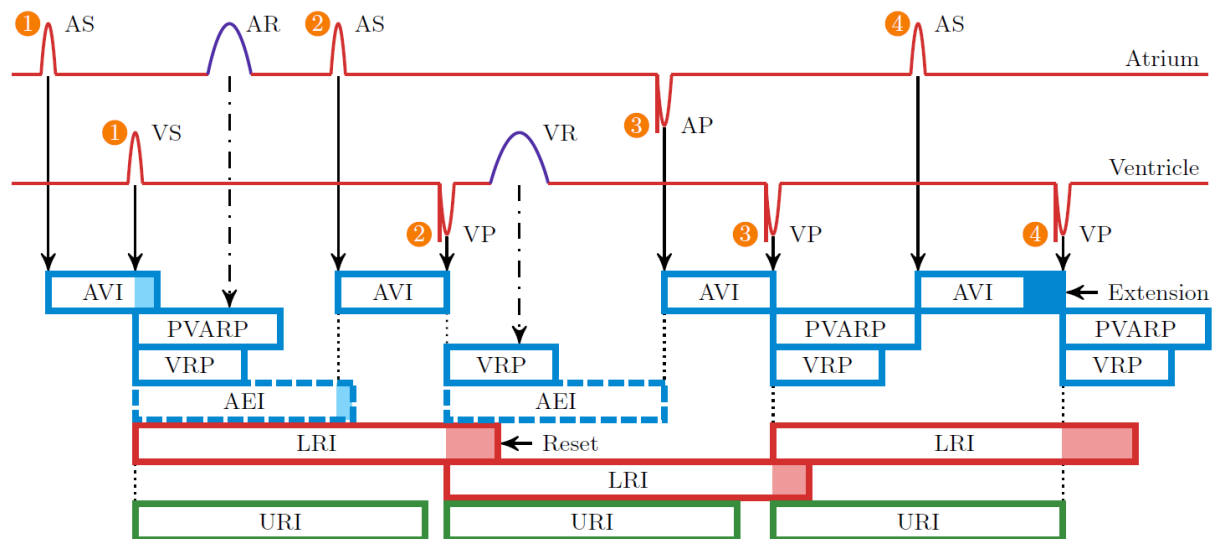

Figure 1: Timing Diagram of a DDD Mode Pacemaker. Note that some timers have been omitted at times for readability.
Figure 1 shows how these timers interact with the heart in a DDD mode pacemaker. The first two graphs are the Electrograms (EGMs) of the heart, from both the atrium and ventricle, which the pacemaker is processing. These graphs have been annotated with whether the events are AS/VS signals that are accepted, AR/VR signals that are ignored, or AP/VP signals that are generated by the pacemaker.
The lower half of Figure 1 shows each of the previously described timers in operation. Here, the length of each box is its maximum value, while any lightly coloured portion of the box is any un-used part, after the timer has been reset early. Examples of this include resetting the AVI timer when a VS signal is received (1), resetting AEI when an atrial signal is received (2), or resetting LRI when a subsequent ventricular event occurs (2).